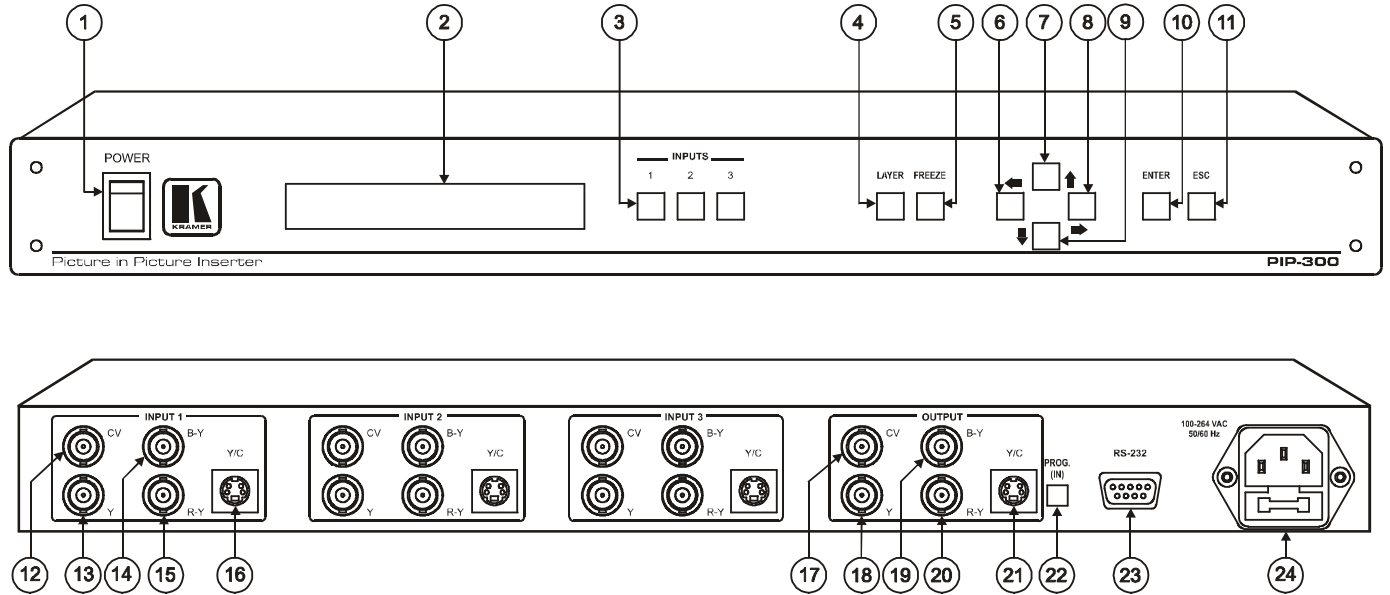

Figure 2: PIP-300 Picture in Picture Inserter
- Figure 2 illustrates the **PIP-300** *Picture in Picture Inserter*